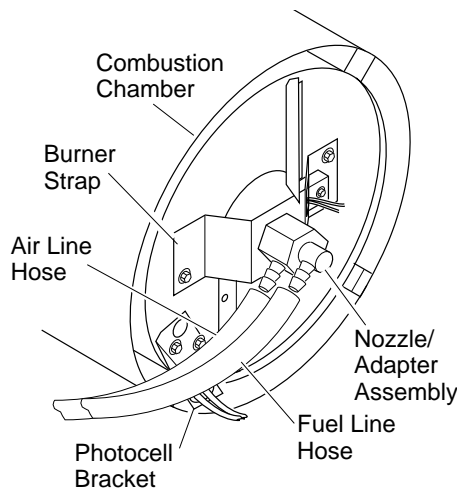
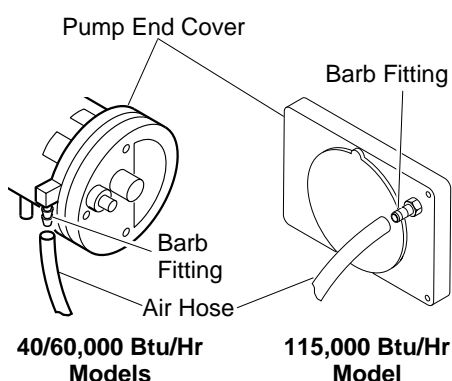

Figure 16 - Removing Air and Fuel Line Hoses (115,000 Btu/Hr Models Only)
Figure 20 - Air Hose to Barb Fitting
14. Replace photocell in photocell bracket. Route wires as shown in Figure 16 or 17.
3. Remove fuel and air line hoses from nozzle assembly (see Figure 16 or 17).
4. Inspect fuel and air line hoses for cracks and/or holes. If fuel line hose is damaged, disconnect from nozzle adapter (see Figure 16 or 17, page 10) and from fuel filter (see page 9). If air line hose is damaged, disconnect from nozzle adapter (see Figure 16 or 17, page 10) and from barb fitting on pump end cover (see Figure 20).
5. Install new air and/or fuel line. Attach one end of air line hose to barb fitting on pump end cover (see Figure 20) and the other end to nozzle adapter (see Figure 16 or 17, page 10). Attach one end of fuel line hose to fuel filter (see page 9) and the other end to nozzle adapter (see Figure 16 or 17, page 10).
For 115,000 Btu heater, route air and fuel line approximately as shown in Figure 16. **Note:** Hoses are not to be touching photocell bracket.